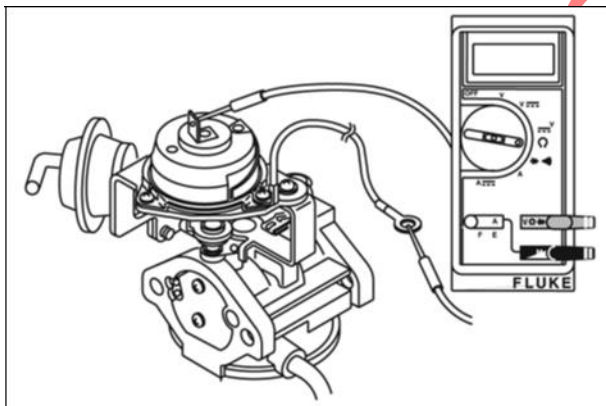

Figure 53
2. Check resistance between tab terminal on thermostat and ground wire as shown (Figure 53).